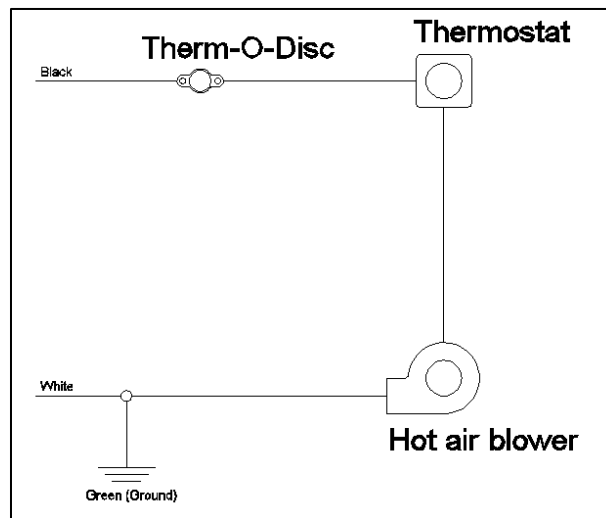

Figure 4-3: Electrical Diagram for Hot Air Kit
8. Make the electrical connections (Figures 4-3 and 4-4). Note that the power supply to the blower is 115V.